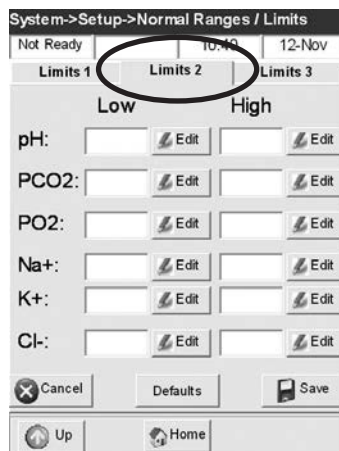

Fig. 3-23 Enter Limits 2
4. Press **<Limits 2>** to advance to the next screen (Fig. 3-23).